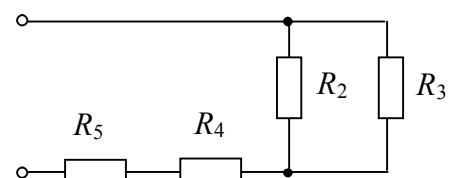

Fig.2.16
(fig. 2.16), if known the resistances of resistors R_2, R_3, R_4, R_5 and the maximum power P_n allocated to the resistor R_n in the unforked circuit. To define total current, input voltage and subcircuits voltages, branches currents, power of the circuit and the powers of subcircuits. To write down the results to the table 2.2 item 1. Tasks variants are listed in the table 2.1.